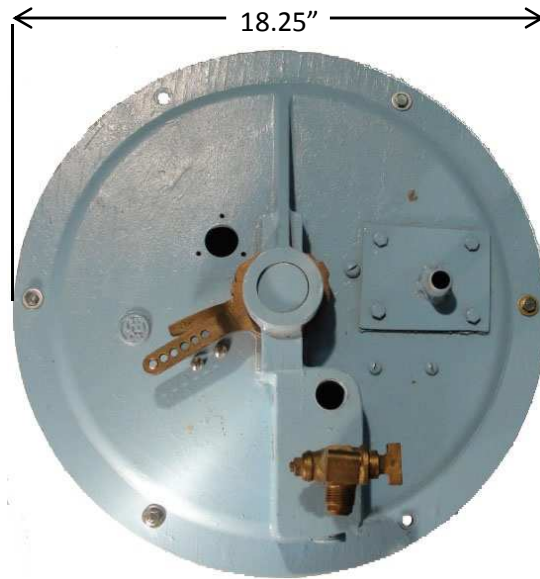

Figure 2: Typical Drawer / Air Damper Assembly
1. Unbolting and removing the drawer / air damper assembly from the boiler is recommended (see Figure 2). This drawer assembly has an outer diameter of approximately 18.25”.